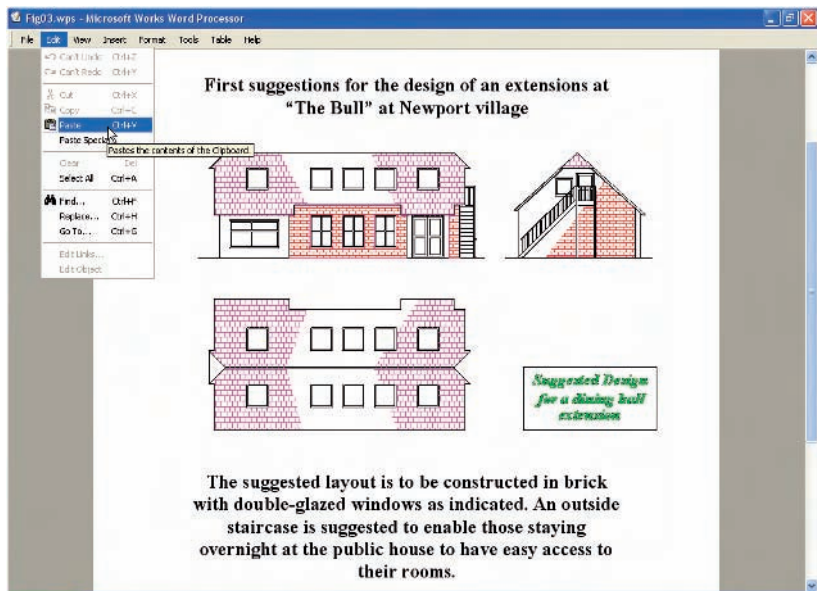

Fig. 10.3 Example – copying and pasting
First example – copying and pasting (Fig. 10.3)
4. Open **Microsoft Word** and *click* on **Paste** in the **Edit** drop-down menu (Fig. 10.3). The drawing from the **Clipboard** appears in the **Microsoft Word** document (Fig. 10.3).